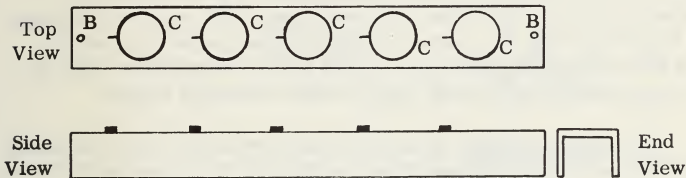

Figure 16 — Views of Socket Part
6. Socket Parts. You have two "socket parts" for flashlight lamps. Each holds five lamps, in such a way that they can be screwed in and out of their socket holes. Views of the top, side and end of the socket part are shown in Figure 16.
Second, long bolts for fastening the socket part to the panel are passed (1) through the two small holes at the two ends (see B in both figures) of the socket part, and (2) through the panel, and fastened tightly with nuts. Third, the bulbs are screwed through the large holes in the top of the socket part (see C in Figure 16), and screwed down far enough to make tight, snug contact with the